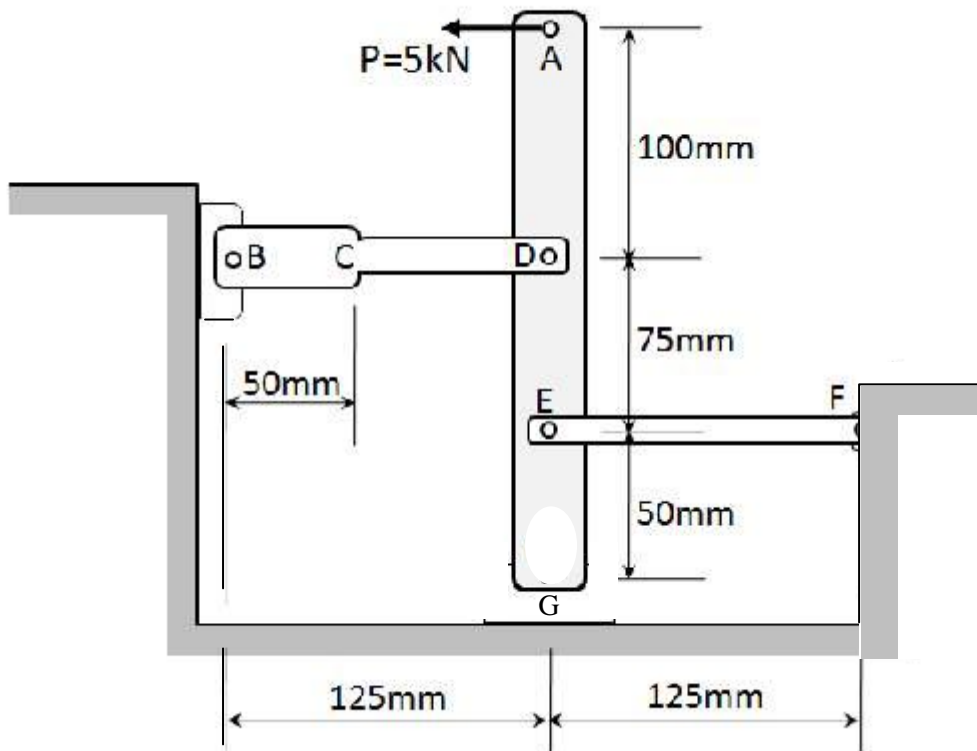

Figure 4
2. The vertical rigid member ADEG in Figure 4 is connected to links BCD and EF at pin joints D and E, respectively. Link BCD is pinned supported at B while link EF is fixed supported at F. Dimensions of rectangular cross-section of links BCD and EF are as follows: portion BC of link BCD – 25mm × 6mm, portion CD of link BCD – 15mm × 6mm and link EF – 12mm × 6mm. Both links BCD and EF are made of steel with elastic modulus  $E=200\text{GPa}$ . A horizontal load  $P = 5\text{ kN}$  acts at A. Determine: